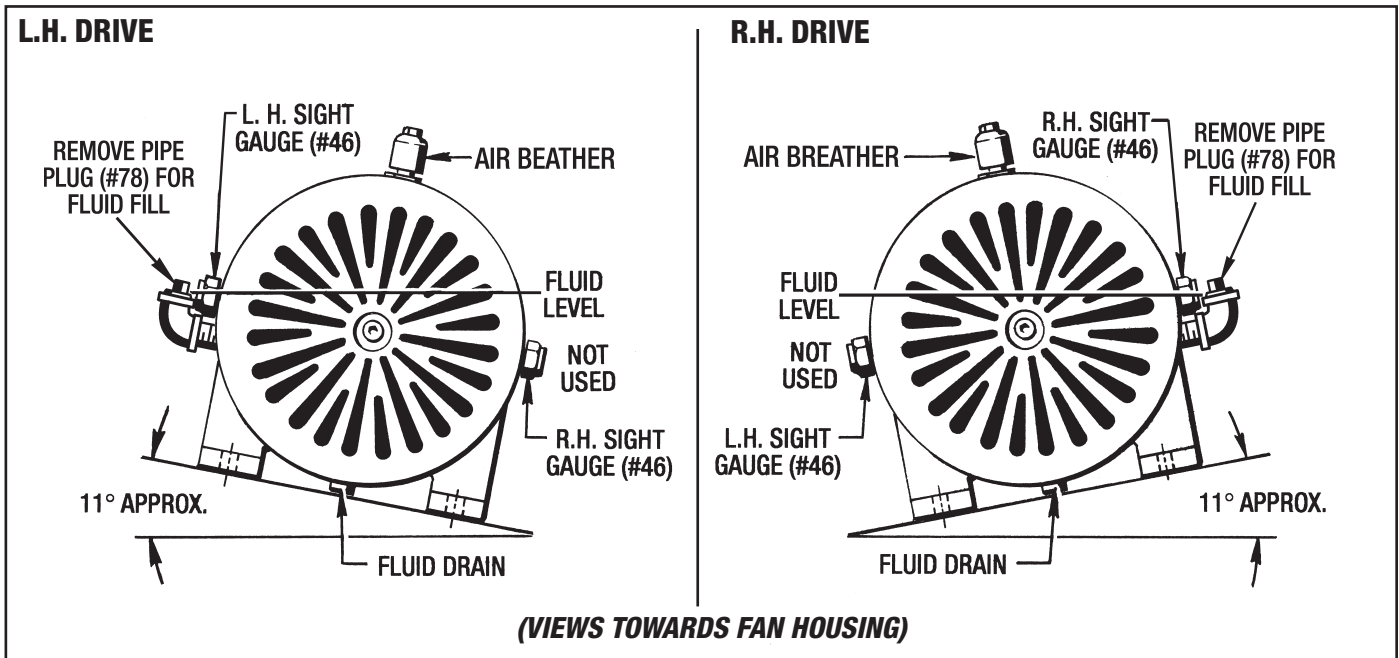

Figure 4.1 - Checking Oil Level
There is a L.H. Drive and a R.H. Drive. Both units are setting at approx. 11° and have (2) Sight Gauges (#46) installed in the brake housing. **The oil level is to be at the center of the highest sight gauge as shown in Figure 4.1.**
and sight gauges. Remove the Pipe Plug (#78) from the Elbow (#125) and refill unit with clean oil up to the center of the appropriate sight gauge as shown in Figure 4.1. Approximate capacity is **just over 2 Quarts**.